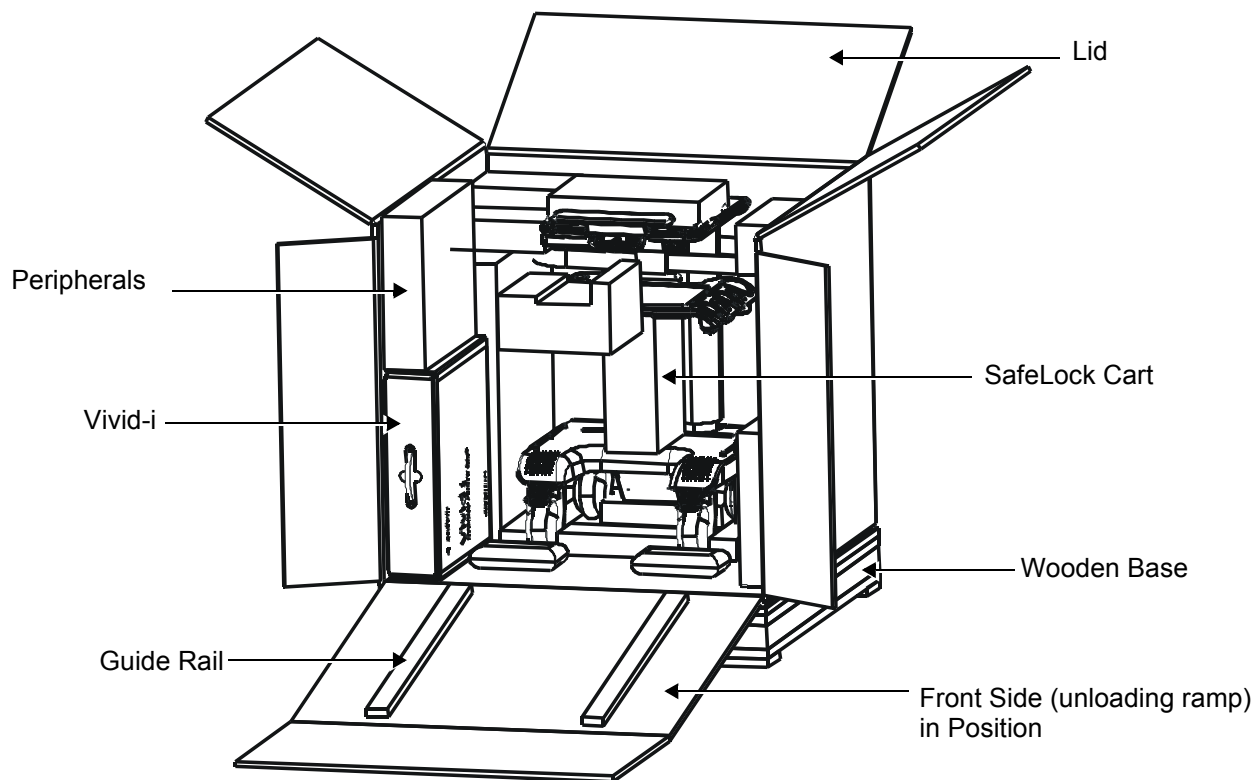

Figure 3-6 Shipping Carton with Top Open and Ramp in Position
- 3.) Carefully cut the adhesive tape used to close the front side of the shipping carton, remove the five staples from each side, then drop the side *downwards* until it is resting on the floor, as shown in Figure 3-6 below.
- 9.) Remove any additional packing material in front of and surrounding the SafeLock Cart. Using two people, carefully roll the Cart *forwards* down the unloading ramp to remove it completely from the shipping carton - see Figure 3-6 below.
- 6.) Remove any additional packing material in front of and surrounding the SafeLock Cart. Using two people, carefully roll the Cart *forwards* down the unloading ramp to remove it completely from the shipping carton - see Figure 3-6 below.